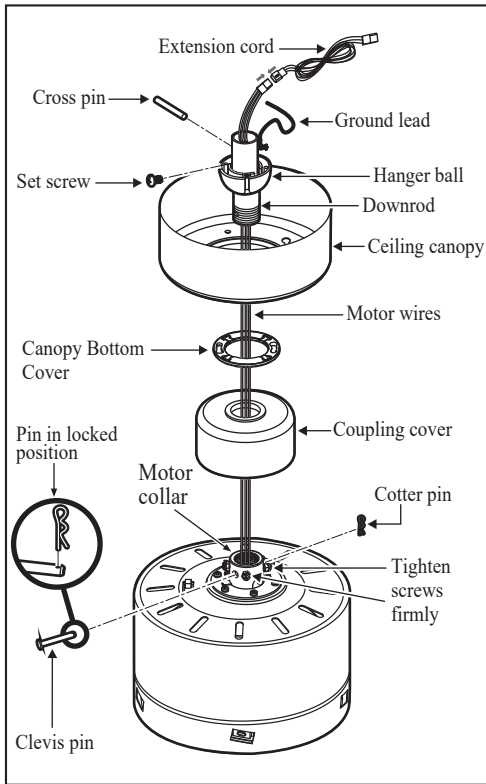

Figure 8
6. Carefully feed the motor wires up through the downrod. Thread the downrod into the collar. Align the holes and replace the clevis pin and cotter pin. Tighten the two collar setscrews. (Figure 8)
7. Slip coupling cover, canopy bottom cover, and canopy onto the downrod. Carefully reinstall the hanger ball onto the downrod and reinstall the ground lead onto the downrod, being sure that the cross pin is in the correct position, the setscrew is tightened and wires are not twisted. (Figure 8)